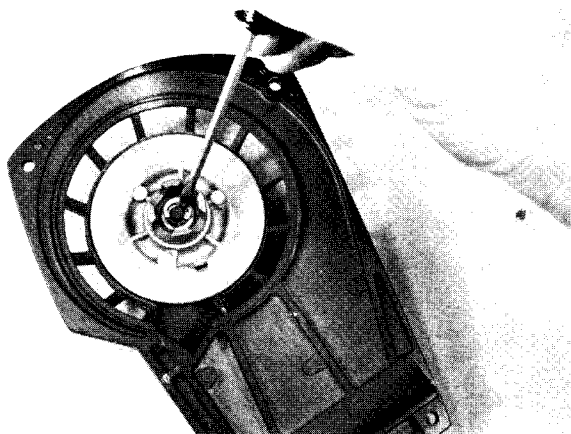

Fig. 81 — Removing Pulley Retaining "E" Ring
2. Remove "E" ring and washer, Fig. 81, and